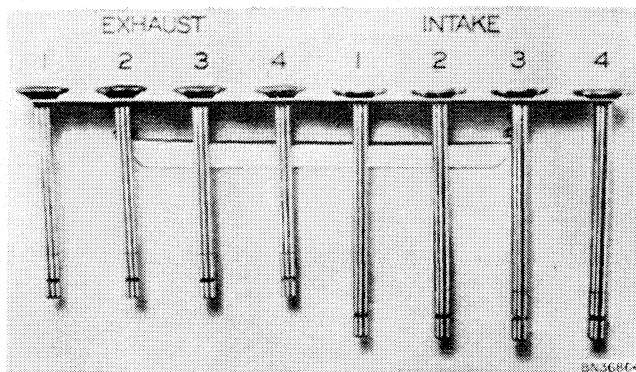

Figure 15 - Correct Order of Exhaust and Intake Valves Placed in the Rack
3. Remove the valves in order and place them in a rack with holes numbered for both intake and exhaust so they will not be mixed in handling. Figure 15.